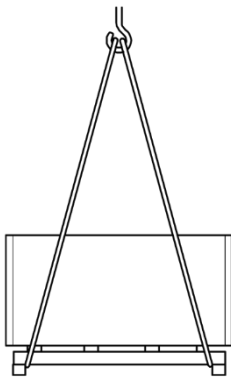

Fig. 22: Attach lifting straps
1. Attach ropes, belts or multi-position hanger according to fig. 22 and secure pallet against sliding.